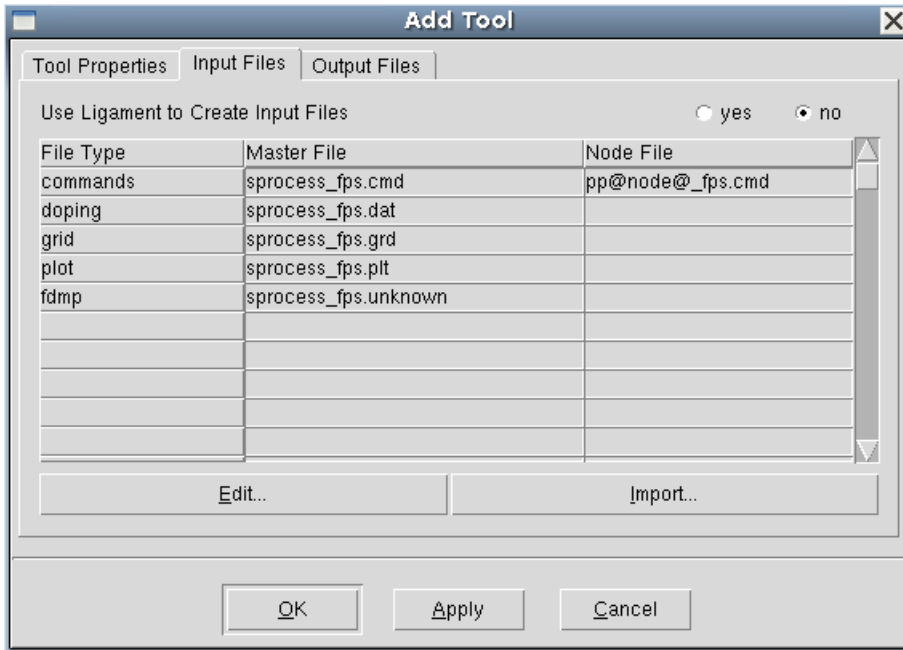

Figure 26 Add Tool dialog box showing Input Files tab
7. Click the **Input Files** tab (see Figure 26 on page 58).